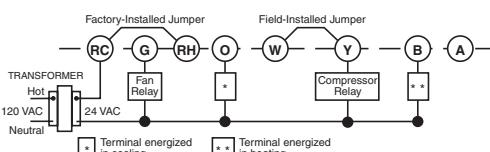

Figure 4. Typical wiring for single transformer, single stage heat pump system
- **Electric heat or single stage heat pump systems:** These thermostats are configured from the factory to operate a heat/cool, fossil fuel (gas, oil, etc.) forced air system. This is correct for any system that DOES NOT require the thermostat to energize the fan on a call for heat. If your system is an electric heat or heat-pump system that REQUIRES the thermostat to turn on the fan on a call for heat, remove the yellow factory-installed jumper wire from the **Y** terminal and connect it to the **A** terminal. This will allow the thermostat to energize the fan immediately on a call for heat. If you are unsure if the heating system requires the thermostat to control the fan, contact a qualified heating and air conditioning service person. For single stage heat pump applications (no auxiliary heat), install a short jumper wire (not included) across terminals **W** and **Y**. If the system has a reversing valve connection energized in Cooling, attach it to **O**. If the system has a reversing valve connection energized in Heating, attach it to **B** (see Fig. 4.). This thermostat will not provide multi-stage heating or cooling.